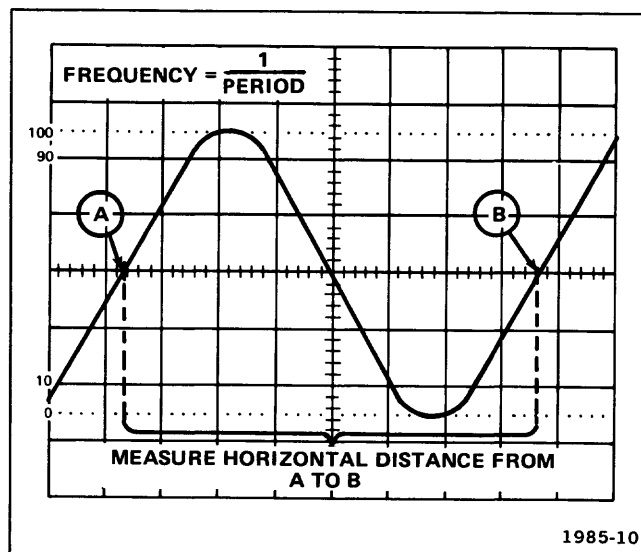

Fig. 1-6. Measuring the period and determining the frequency of a displayed waveform.
6. Set the TIME/DIV switch and POSITION control for 1 complete cycle displayed within the center 8 graticule divisions as shown in Figure 1-6.
7. Measure the horizontal distance in divisions over 1 complete cycle of the displayed waveform (see Figure 1-6).
Example: Assume that the horizontal distance over 1 complete cycle is 7 divisions, and the TIME/DIV switch setting is .1 ms (see Figure 1-6).